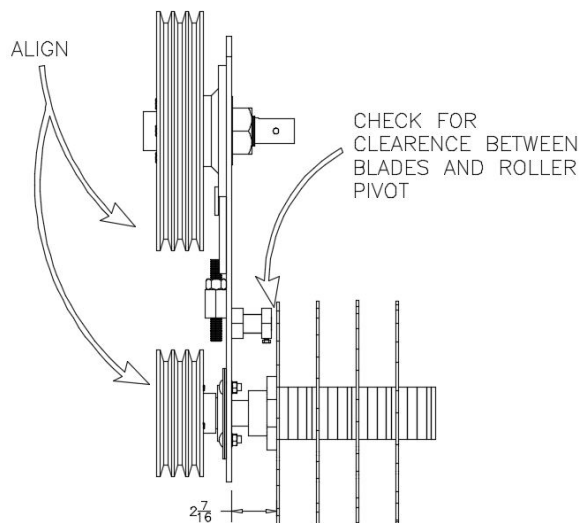

Figure 9. Pulley Alignment and Shaft Positioning
3. See Figure 9 for proper position of shaft in the mainframe.